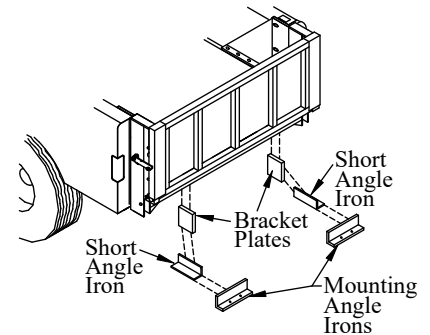

Figure 18: Lower bracket support.
- 2. Bolt** the bracket plates to the truck frame (Figure 18).